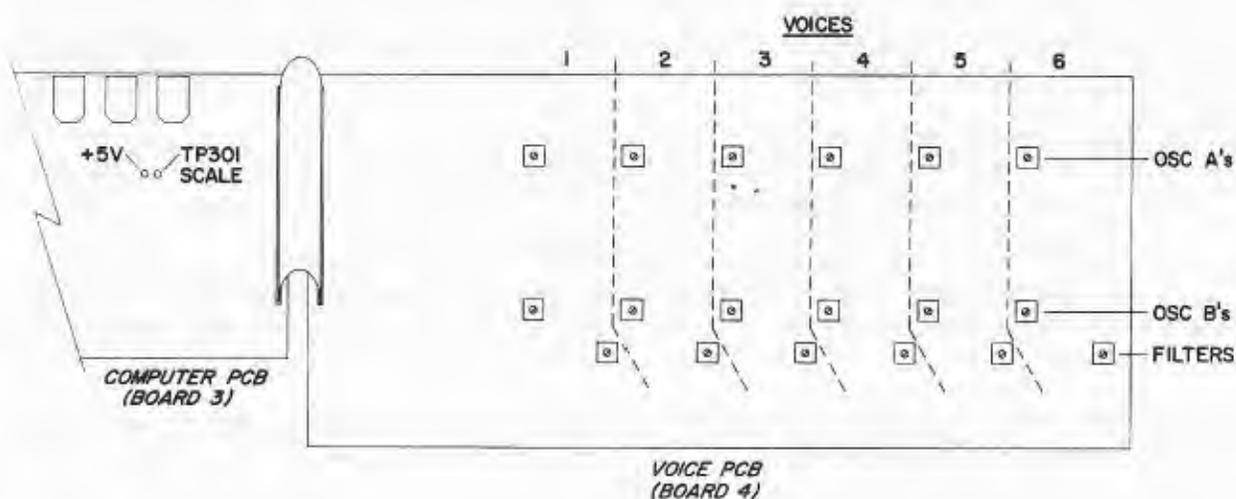

Figure 9-0
4. See Figure 9-0. Locate TP301 SCALE, and jumper it to adjacent +5V TP.